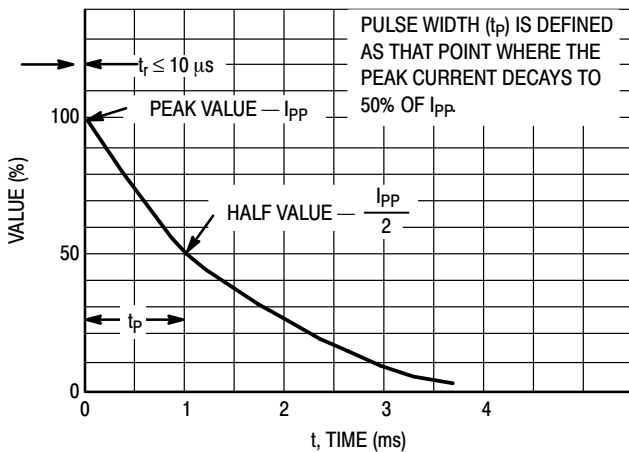

Figure 5. Pulse Waveform
- Peak Power - 40 W @ 1.0 ms (Bidirectional), per Figure 5 Waveform
1. Nonrepetitive current pulse per Figure 5 and derate above  $T_A = 25^\circ\text{C}$  per Figure 6.
5. Surge current waveform per Figure 5 and derate per Figure 6